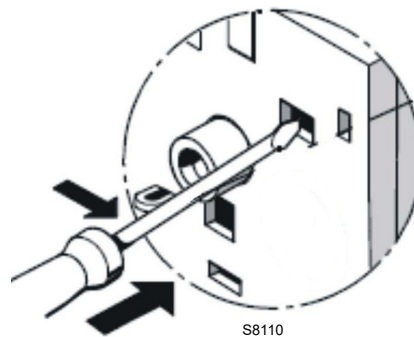

Fig. 33
- To test the thermal relay, insert a screwdriver in the window “TEST” (Fig. 33) and move it in the sense of the arrow (towards right).
- **Contact test NC (95-96) and NO (97-98)(Fig. 33)**